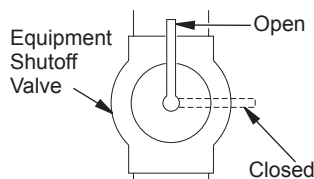

Figure 15 - Equipment Shutoff Valve
1. Close equipment shutoff valve (see Figure 15).